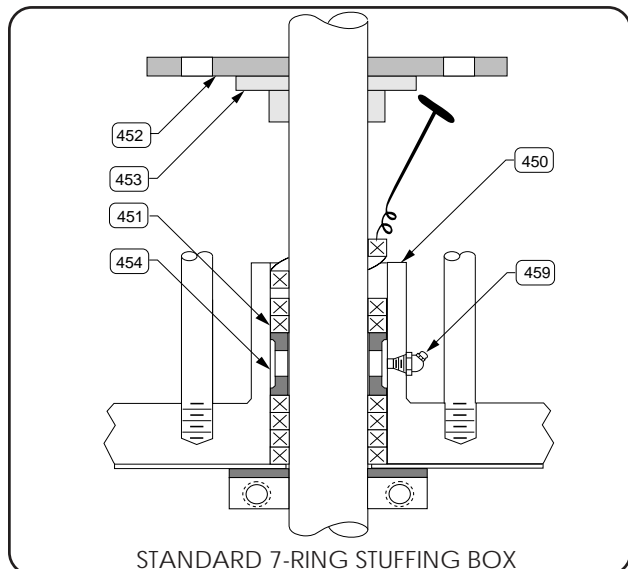
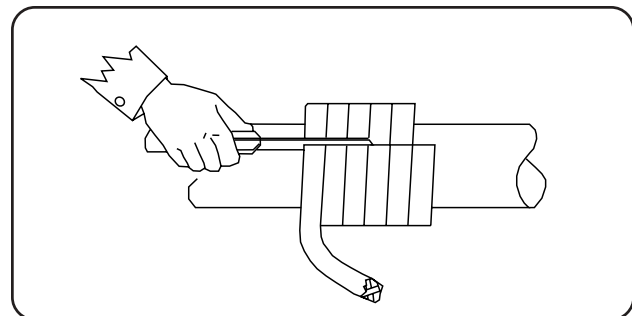
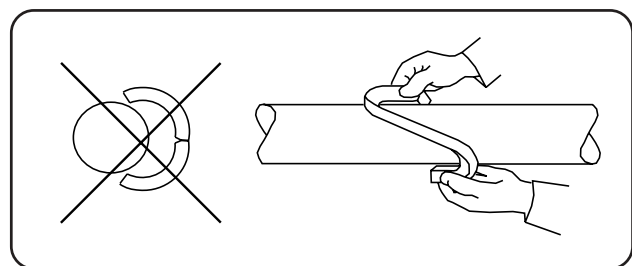

FIGURE C5.1
FIGURE C5.3
FIGURE C5.4
**C5.1 REPACKING THE GLAND:** Packing tools: Special flexible corkscrew tools specifically designed for packing make seal servicing an easy task (see Figure C5.1). Various size tools are available from Sharpe Mixers.
**C5.2** Once power has been disconnected and shaft retraction has occurred (see Section C2.1), remove the old rings. If a lantern ring is present, there are (4) slots cut into the outside edges. This helps the packing tools "grab" the lantern ring for removal. Use caution when removing old rings. Do not score shaft. Before installing the new rings, be sure that the new packing is of the proper type and size for your application (see Data Sheet and sales drawings in front of manual for seal size and configuration).
**C5.3** If you purchase your packing rings from other than Sharpe Mixers, you may have to cut the rings yourself. To do this, wind the packing around a mandrel of the same diameter as the mixer shaft for the desired number of rings (see Figure C5.3). Cut rings by making a straight cut along the mandrel as shown. When removing rings from mandrel, slip them off without opening the rings. This is especially important for metallic types. Do not open with a hinge-like action (see Figure C5.4).
**C5.6** Install rings over the shaft by twisting open as shown in Figure C5.4. This is especially important for metallic rings. NEVER open rings with hinge like action.